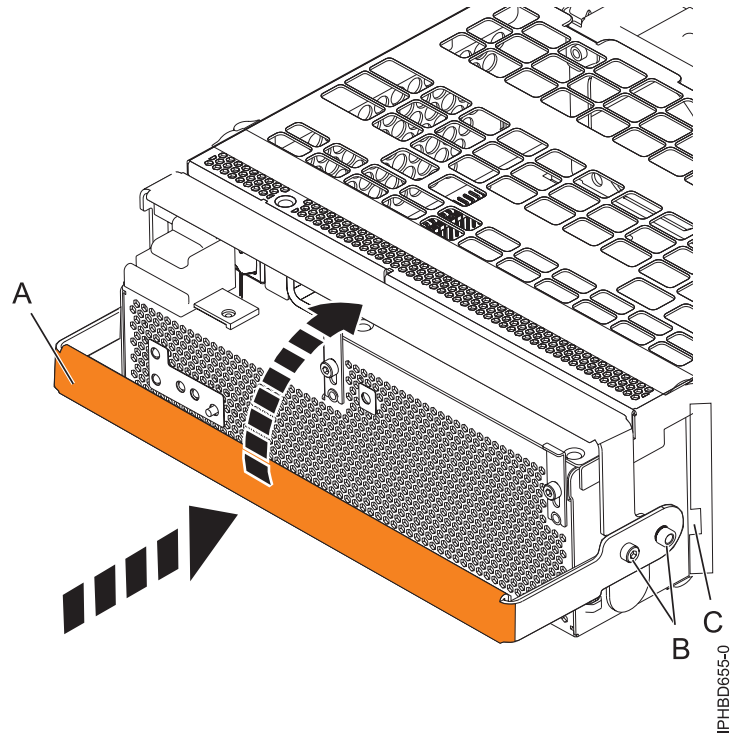

Figure 49. Replacing a power supply
11. To replace the power supply, with the locking handle **(A)** in the open position, push the power supply into the expansion unit as shown in Figure 49 on page 65.